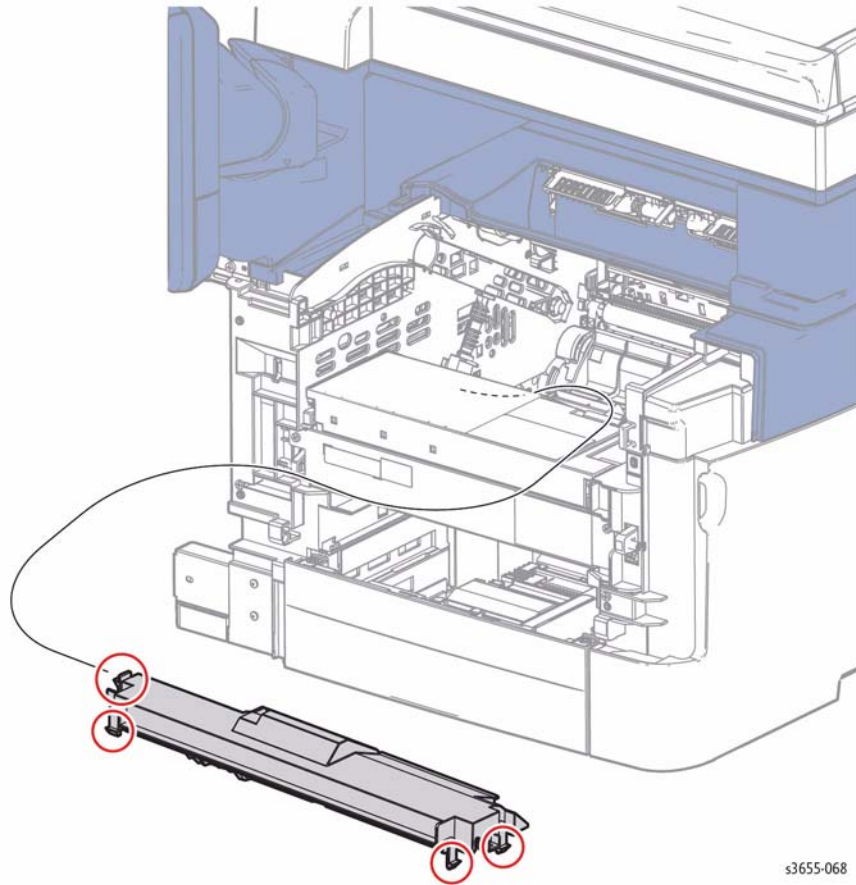

Figure 2 Remove the Top Frame Assembly
15. Refer to Figure 2 to locate and release 4 hooks that secure the Top Frame Assembly to remove it from the chassis.